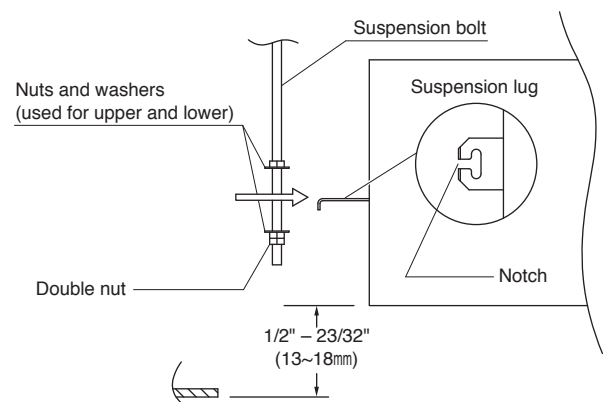

Fig. 6-4
- (4) Thread the 3 hexagonal nuts (locally purchased) and 2 supplied washers onto each of the 4 suspension bolts as shown in the diagram. Use 1 nut and 1 washer for the upper side, and 2 nuts and 1 washer for the lower side, so that the unit will not fall off the suspension lugs. (Fig. 6-4)
- (5) Adjust so that the distance between the unit and the ceiling bottom is 1/2" (13 mm) to 23/32" (18 mm). Tighten the nuts on the upper side and lower side of the suspension lug. (Fig. 6-4)